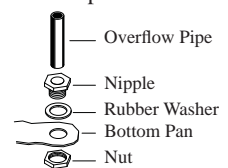

Fig. 4
- **Overflow assembly.** Remove nut and place nipple through the hole in the pan, with the rubber washer between the pan and the head of the drain nipple (Fig. 4). Screw on nut and draw up tight against bottom of pan. Insert overflow pipe in nipple to retain water. The overflow pipe may be removed to drain the pan when necessary. The male threads of the Nipple are standard 3/4" garden hose threads.